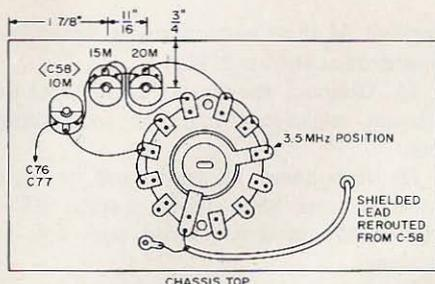

Fig. 1. Rear view of neutralizing switch.
6. Obtain a new shaft section 3-3/4" long with the same diameter and flats as the original. Also procure a single pole 11 position wafer switch section which is required for switching the three neutralizing capacitors. Only seven positions of the switch will be used. (See Fig. 1.)
8. Wire the new 11 position wafer switch section with jumpers and 3 inch lead extensions as shown in Fig. 1. Position the rotor or armature of this switch in the 3.5 mhz position as shown in the figure.
10. Locate C58, the original neutralizing capacitor, and the shielded lead connected to the lug under the knob. Unsolder this shielded lead from C58 and the ground lug and reroute it through the hole vacated by the tank coil stand off insulator screw. Keep this lead close to the chassis and connect it to the armature lug of the new wafer switch section. Refer to the photo and Fig. 1. Connect shield to nearest ground lug.
11. In accordance with dimensions in Fig. 1, locate and drill holes for mounting the two new neutralizing capacitors. Holes must be of correct size to allow proper seating of shoulders on insulating washers used to isolate each capacitor shaft from ground. The location of original neutralizing capacitor remains unchanged.